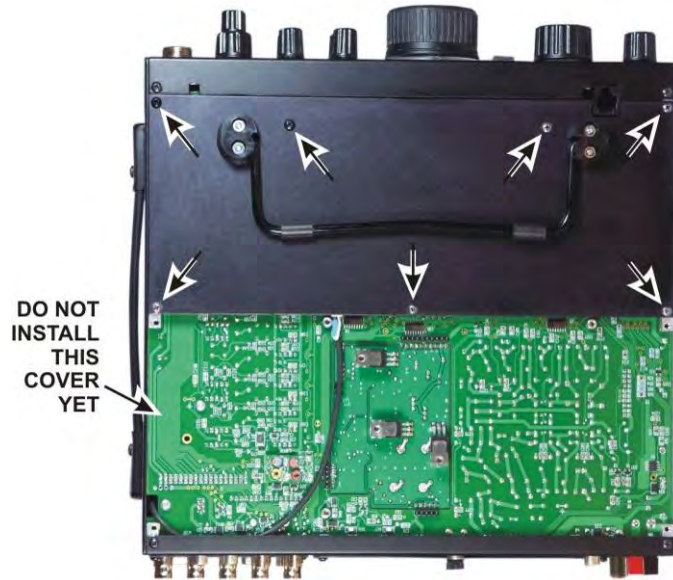

Figure 91. Installing Bottom Cover Forward Section.
□ Turn the K3 over so the bottom is exposed. Position the forward section of the bottom cover with the feet and bail toward the front as shown in Figure 91. Attach the cover with seven 3/16" (4.8 mm) black pan head screws (SS) at the positions shown. Do not use washers.